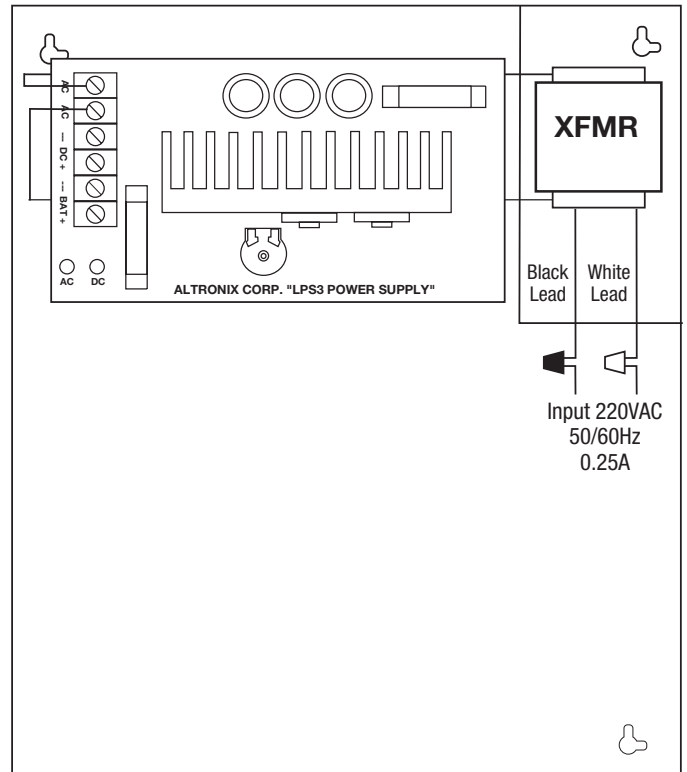

Fig. 1
2. Connect AC power to the black and red flying leads of the transformer (*Fig. 1*).
4. Connect devices to be powered to the terminals marked [- DC +] (*Fig. 1*).
5. Connect battery to the terminals marked [- BAT +] (*Fig. 1*) as marked on the unit (battery leads included).